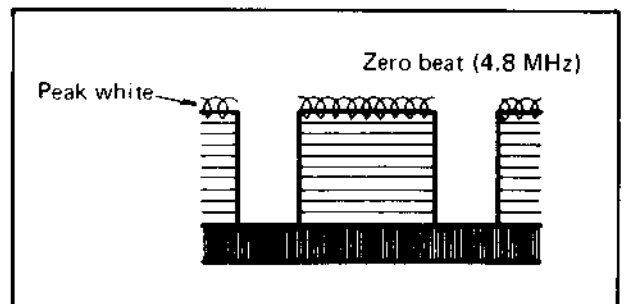

Fig. 5-19 Carrier and deviation adjustment - B
6. Set the frequency of high-frequency sine-wave generator to 4.8 MHz, and adjust R36 (DEVIATION), so that the waveform observed on the oscilloscope shows a zero beat at the top of the video signal as shown in Fig. 5-19.